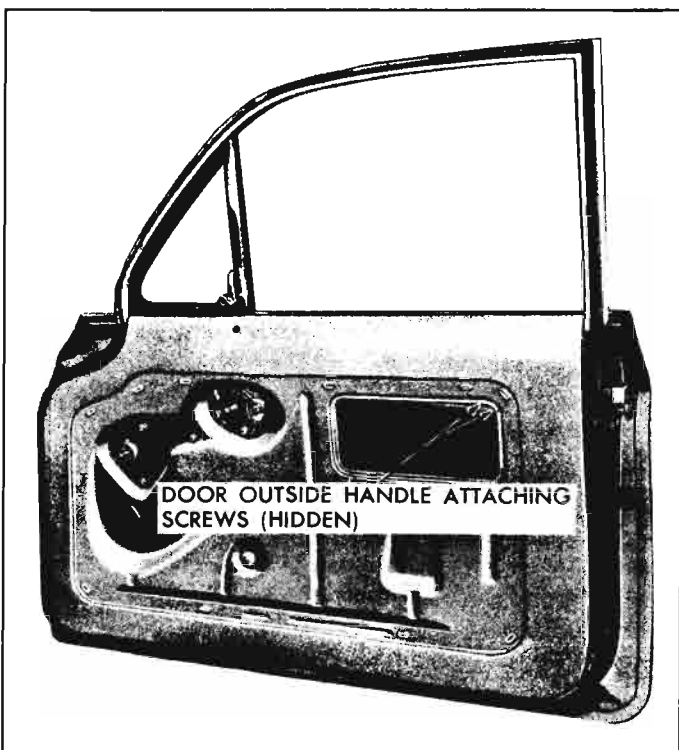

Fig. 10-59—Front Door Outside Handle Attachment
- Raise door window. Remove door trim assembly and detach upper rear corner of inner panel water deflector sufficiently to gain access to door outside handle attaching nuts (fig. 10-59).